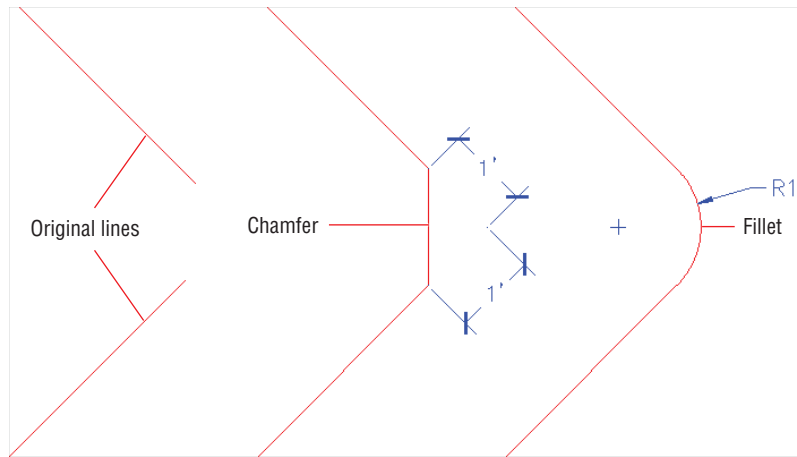

FIGURE 2.29 Chamfered and filleted lines
5. Click one line and then hover the cursor over the second line; you'll see a preview of the chamfer that will be created. Click the second line to perform the chamfer and complete the command. (The chamfer is shown in the middle of Figure 2.29.)
8. Click the first line, and then hover the cursor over the second line; the fillet preview shows on screen. Click the second line to commit to that particular radius. (This fillet is shown at the right of Figure 2.29.)